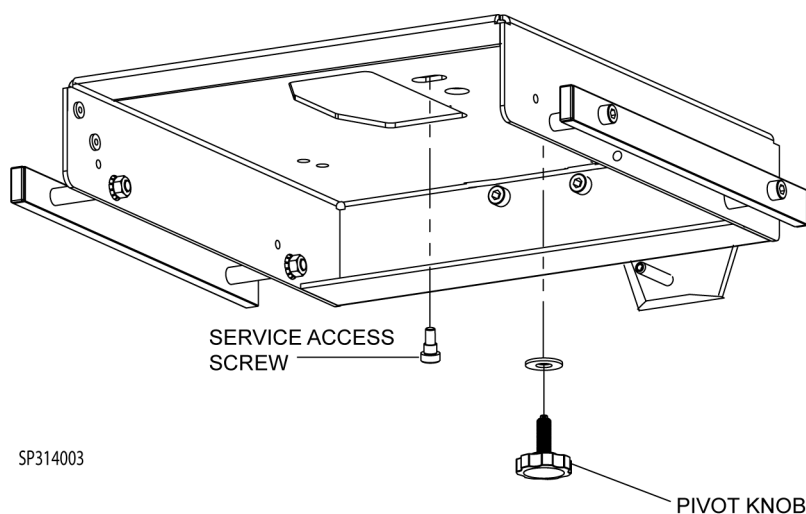

Fig. 2 Wall Mount Service Access
3. Remove the unit pivot knob and washer located under the wall mount bracket, then using an allen wrench, remove the service access screw. Refer to Fig. 2.